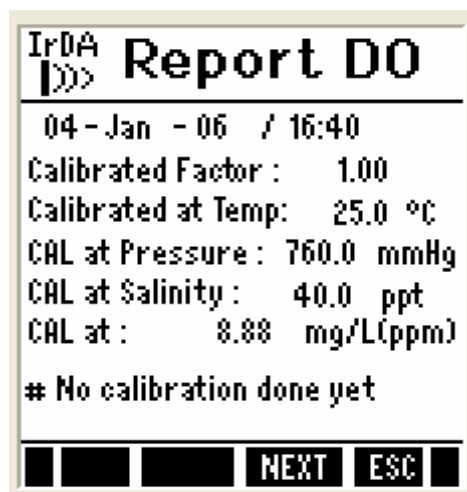

Figure 34 : DO report screen in mg/L mode
2. Press **REPO (F2)** key. The calibration report is shown in the display [Figure 34].